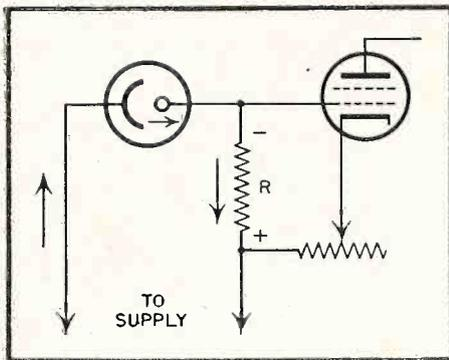

Fig. 2. Reverse type phototube current
*Figure 2* shows the path of the phototube current upon which the operation of the circuit depends. The phototube current (as in any other tube), flows from cathode to plate as shown by the arrows, and as a result must flow in a downward direction through